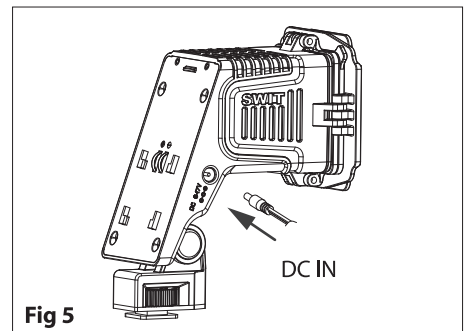

Fig 5
- ② For third-party DC cables, please make sure the DC connector is 5.5/2.1mm pole and input voltage should be 6-17V; and inner: positive, Outer: negative. See Fig 5.